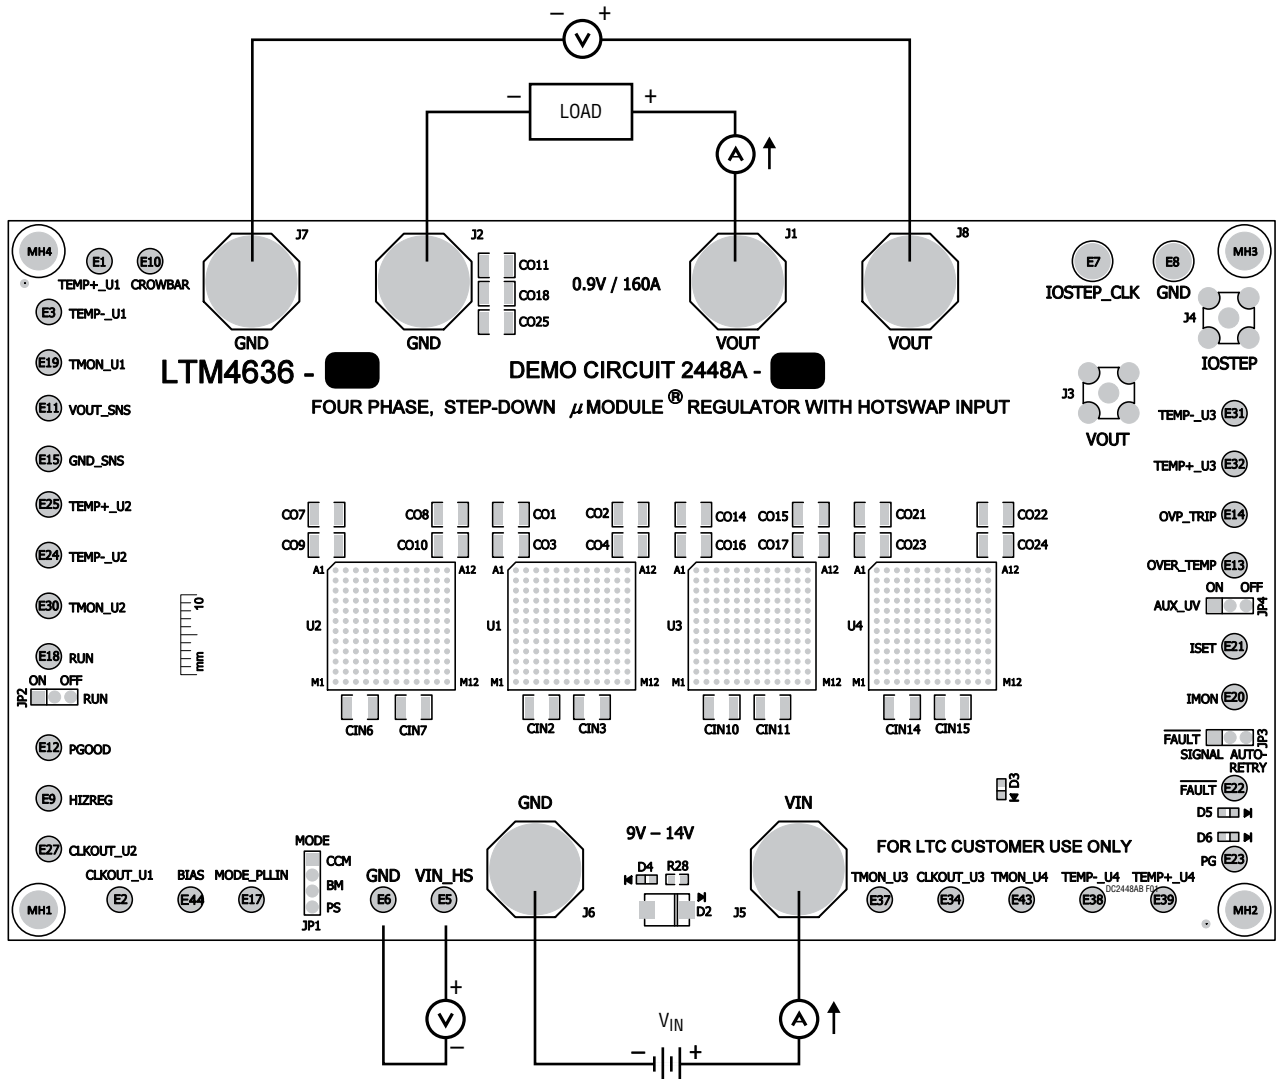

Figure 1. Measurement Setup of DC2448A-B
Demonstration circuit DC2448A-B is an easy way to evaluate the performance of PolyPhase operation of the LTM4636EY. Due to the high input/output current, the user should select the proper input supply/load/cable which can sustain the full load operation. Please refer to Figure 1 for proper measurement equipment setup and follow the procedure below:
- With power off, connect the input power supply, load and meters as shown in Figure 1. Preset the load to 0A and VIN supply to 12V.